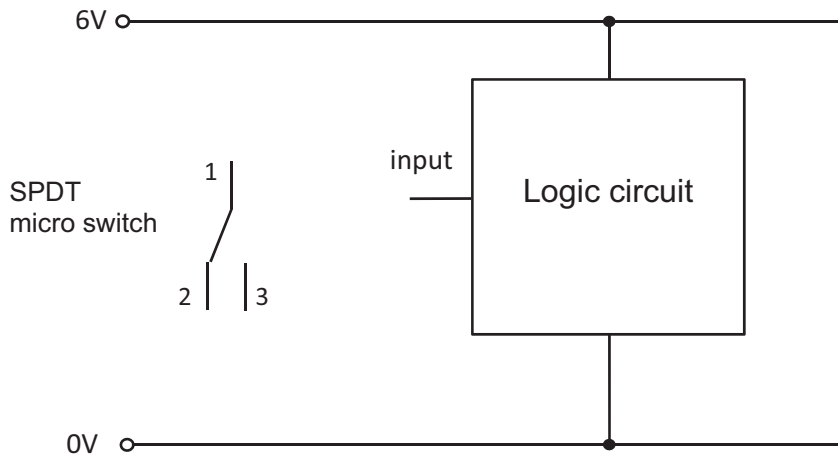

Fig. 3
- (iii) The input to a logic circuit consists of a SPDT micro switch and a resistor. Complete the circuit diagram in **Fig. 3** below to enable a logic '1' at the input when the micro switch is moved to terminal 3 and a 'logic 0' when moved to terminal 2.